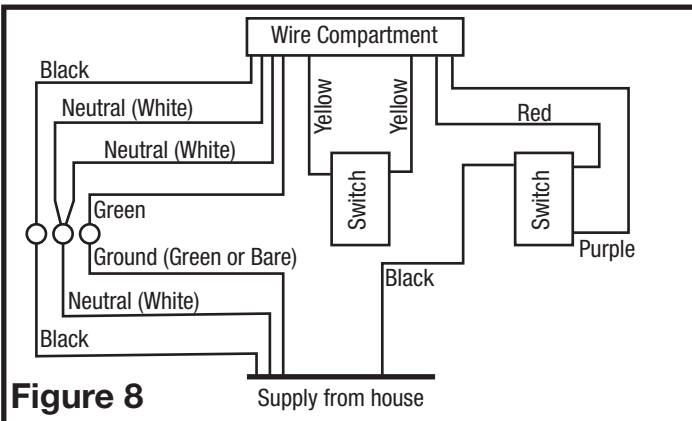

Figure 8
2. **Continuous Ventilation:** Secure the electrical wires to the housing with an approved electrical connector. For two speed fans wired for continuous ventilation, connect the White wires of the fan to the White (Neutral) wire from the power source. Connect the ground wire from the house to the green wire from the fan housing. Connect the Black wire of the fan to the Black wire (Hot) from the power source. Using a properly grounded standard duplex toggle switch (such as Leviton 5224-2W, not included) connect the Black wire from the supply to one side of the top and bottom switch. Connect the Red wire (light) from the fan housing to the other side of the top switch and connect the Purple wire (night light) from the fan housing to the other side of the bottom switch. Using a second properly grounded standard duplex toggle switch, connect the Hot Yellow wire from the fan to the input of the switch. Connect the second Yellow wire from the fan to the output side of the switch. Closing the switch will change from normal to high speed (Figure 8).